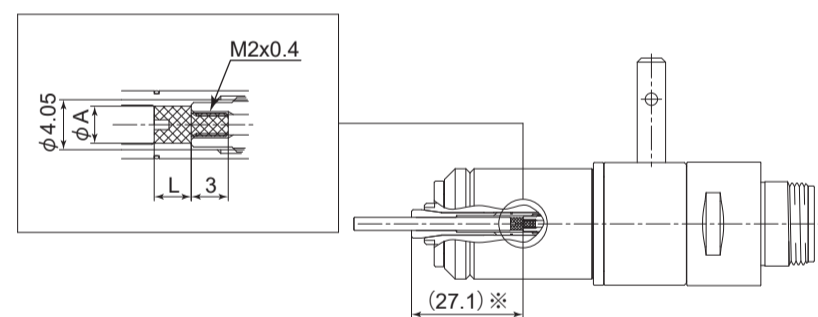

Fig. 5
Please make the stopper by your own to adjust " Tool Mounting Depth ". Utilize the screw M2 x 0.4 l 3 in the spindle in consideration for " Dimension ϕA " to fit tool shank diameter and the required adjust length (L) refer to Fig. 5.